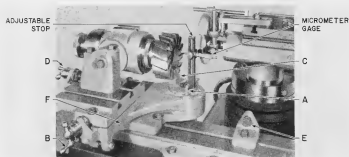

Figure 73A
7. *Positioning Cutter for Radius.* Stop machine, move cutter away from grinding wheel using machine controls, and back up attachment slides far enough to allow micrometer gage to be mounted in tapered hole of attachment. Tapered hole should be thoroughly cleaned before using micrometer gage. Locate against stop pin "A". Set micrometer barrel to proper height (use centering gage) and adjust to desired radius (For a $1/4''$ radius set micrometer at .250"). Turn crank "B" until periphery of cutter contacts spindle of micrometer (Fig. 73A) Set graduated dial to zero and lock. Turn micrometer gage 90° against other stop pin "C" (Fig. 73A). With micrometer still set at .250", turn crank "D" until face of cutter contacts micrometer spindle. Set graduated dial to zero and lock. Remove micrometer gage and replace with tapered plug.